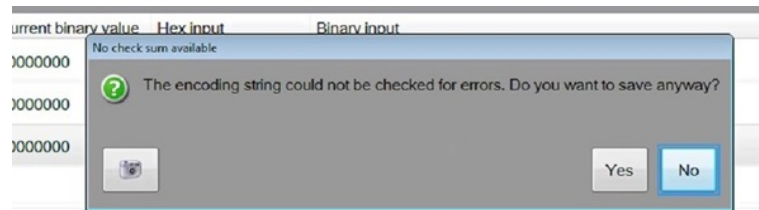

Figure 8. Error checking pop-up
- A pop-up menu with the message: “The encoding string could not be checked for errors. Do you want to save anyway?” appears (Figure 8). Select “Yes”.